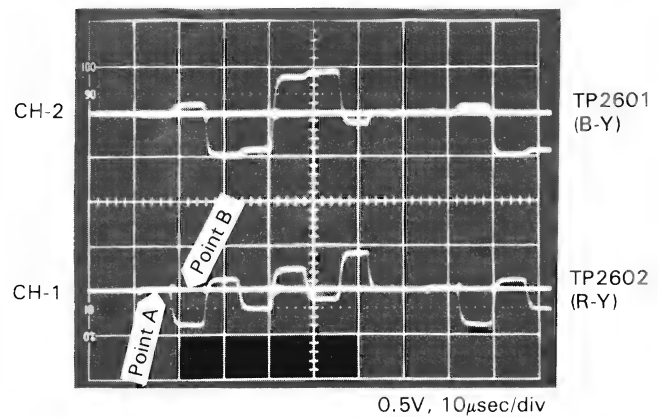

Figure 2-14
4. Adjust R2606 (Colour Level Adj.) so that the R-Y waveform becomes approximately 1 Vp-p. (Fig. 2-14)
4. Adjust R2631 (Burst Phase Adj.) with an oscilloscope so that cracking in point A of Fig. 2-14 is minimized.
4. Adjust R2619 (1H Gain Adj.) with an oscilloscope so that cracking in point B of Fig. 2-14 is minimized.
4. Adjust L2601 (1H Phase Adj.) with an oscilloscope for minimum overall blur of the R-Y waveform. (Fig. 2-14)
4. Repeat burst phase adjustment, 1H gain adjustment, and 1H phase adjustment with R2631, R2619, and L2601, until cracking and blur of the waveform are minimized. (Fig. 2-14)
4. Adjust R2606 (Colour Level Adj.) so that the R-Y waveform amplitude becomes  $1 \pm 0.04$  Vp-p. (Fig. 2-14)